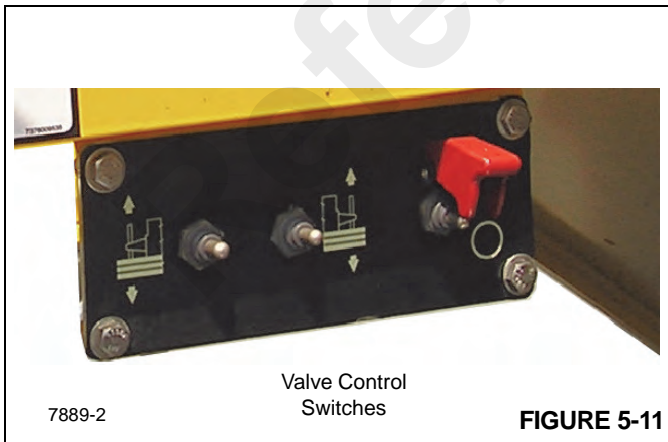

FIGURE 5-11
**NOTE:** It may be necessary to jog the counterweight removal control valve switches (Figure 5-11) to remove the weight of the counterweight from the counterweight pin assemblies.
3. Using the counterweight removal control valve switches Figure 5-11 and Figure 5-12, raise the counterweight cylinders to relieve weight on the counterweight pin assemblies (the ones holding the removable counterweight to the superstructure).